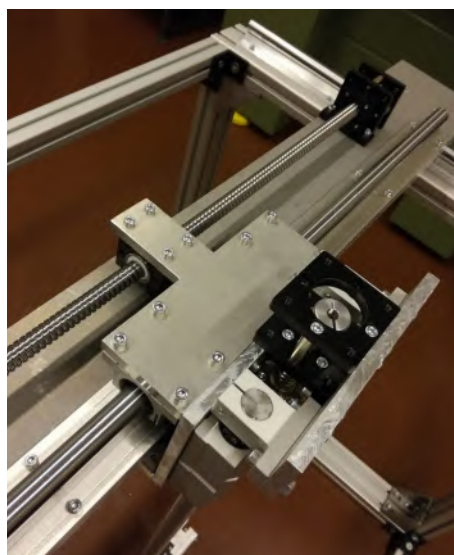

Figure 32: X-axis attached (via plate 5) to the linear bearings and the ballscrew of the y-axis.
13.2. Fix plate 5 to the ballscrew block of the y-axis using M5 screws (Figure 32).